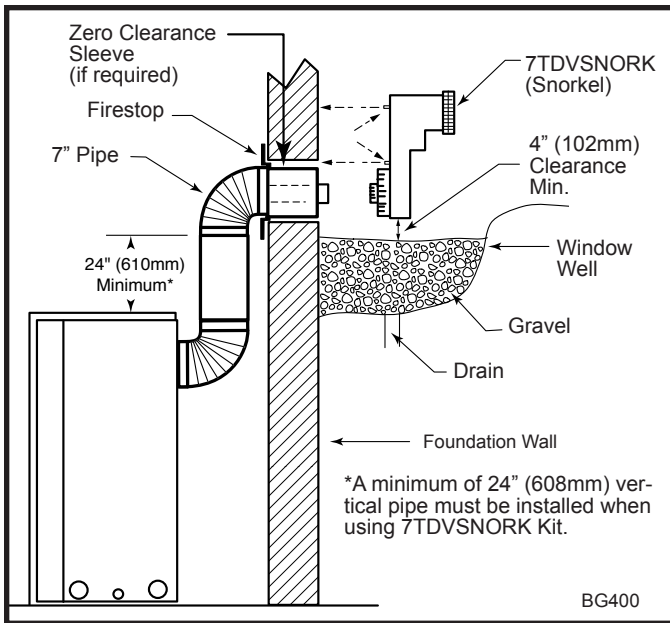

Fig. 33 Below grade installation.
2. Remove soil to a depth of approximately 16" (406mm) below base of snorkel. Install window well (not supplied). Refill hole with 12" (305 mm) of coarse gravel leaving a clearance of approximately 4" (102 mm) below snorkel. (Fig. 33)
7. Level the soil to maintain a 4" (102 mm) clearance below snorkel. (Fig. 33)